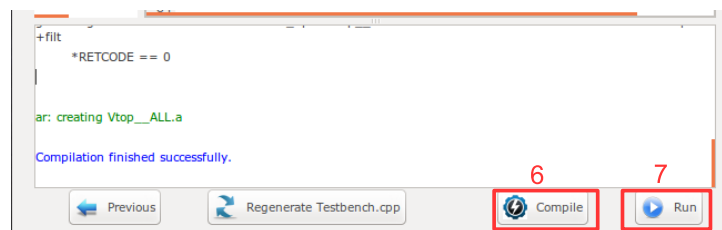

Figure 5.22: Verilator compilation successful snapshot.
6. Press Compile button to generate the executable binary file. If the file is generated successfully you must see the "compilation finished successfully" message as shown in Figure 5.22.